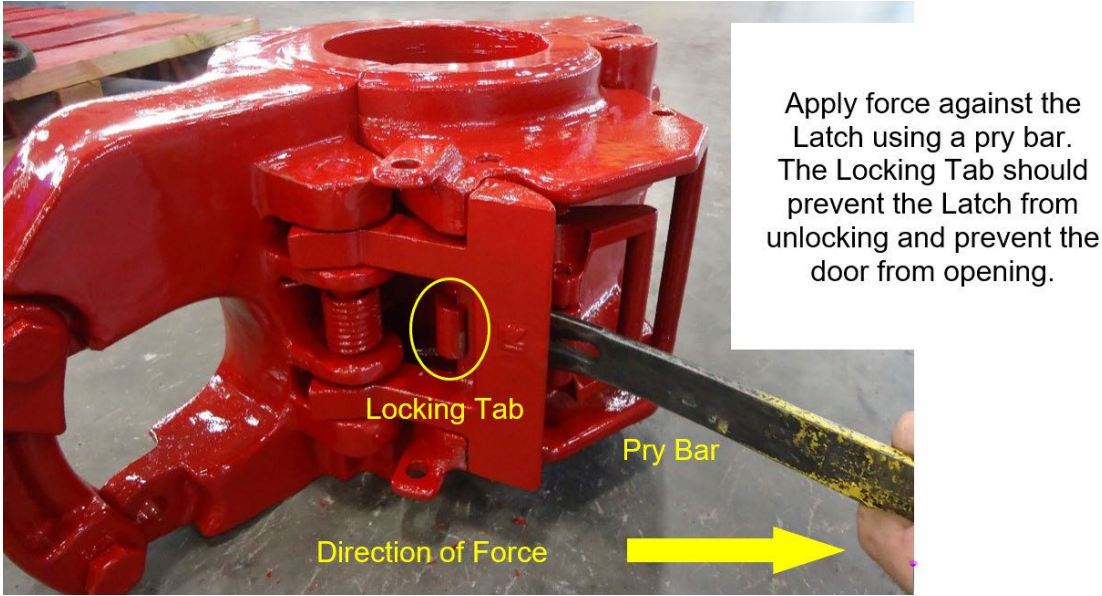
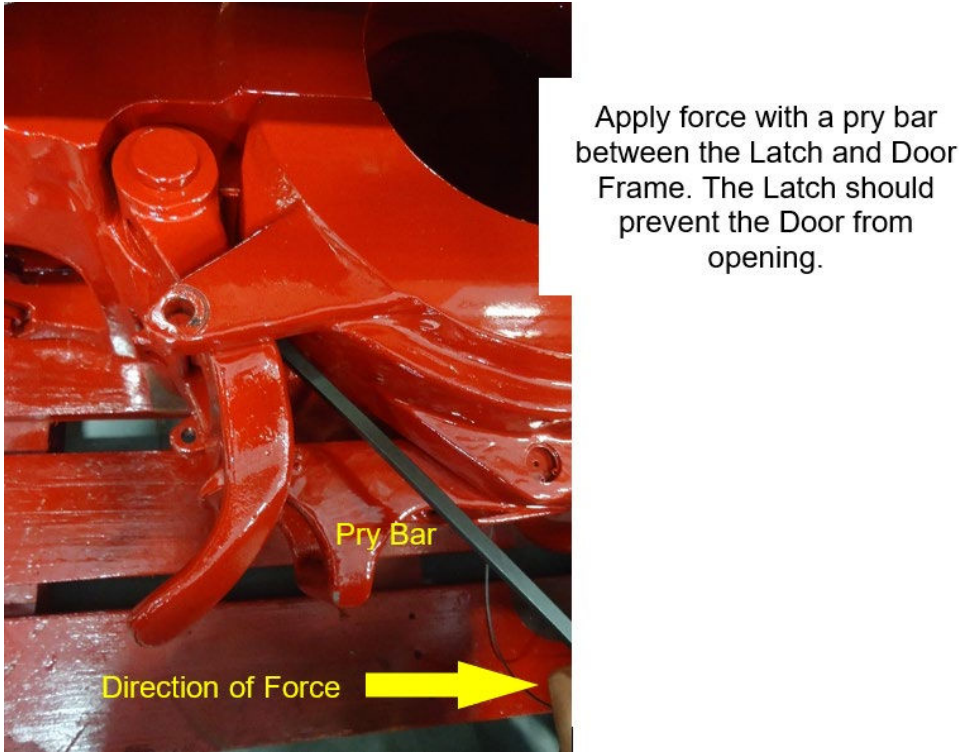

Figure 5
Figure 6
- ☐ 2. Try to open the latch by prying the latch between body and latch with a steel bar or screwdriver – the latch lock prevents the latch from being opened (Figure 5 or Figure 6). If the elevator opens during pry test, pull from operation, and repair or replace, as necessary.